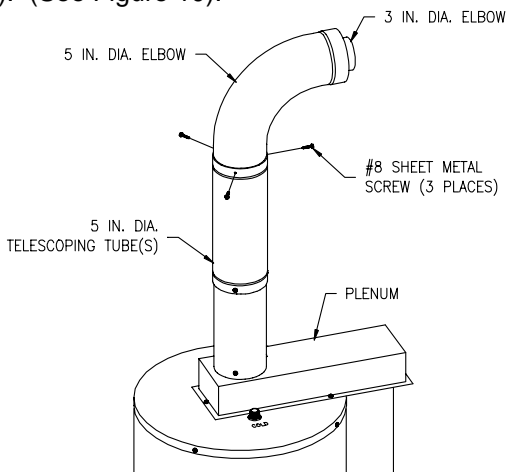

Figure 10
- Place the straight end of the five (5) inch (12.7 cm) diameter elbow over the three (3) inch (7.6 cm) diameter elbow into the end of the five (5) inch (12.7 cm) diameter telescopic tube(s), one (1) inch (2.5 cm) (or until seated). Make certain that the five (5) inch (12.7 cm) diameter elbow is oriented in the same direction as the three (3) inch (7.6 cm) diameter elbow and both are oriented in the correct direction. Drill three (3) 1/8 inch diameter holes, 120° apart, through the five (5) inch (12.7 cm) diameter telescopic tube(s) into the five (5) inch (12.7 cm) diameter elbow. Fasten with three (3) #8 sheet metal screws (supplied). (See Figure 10).